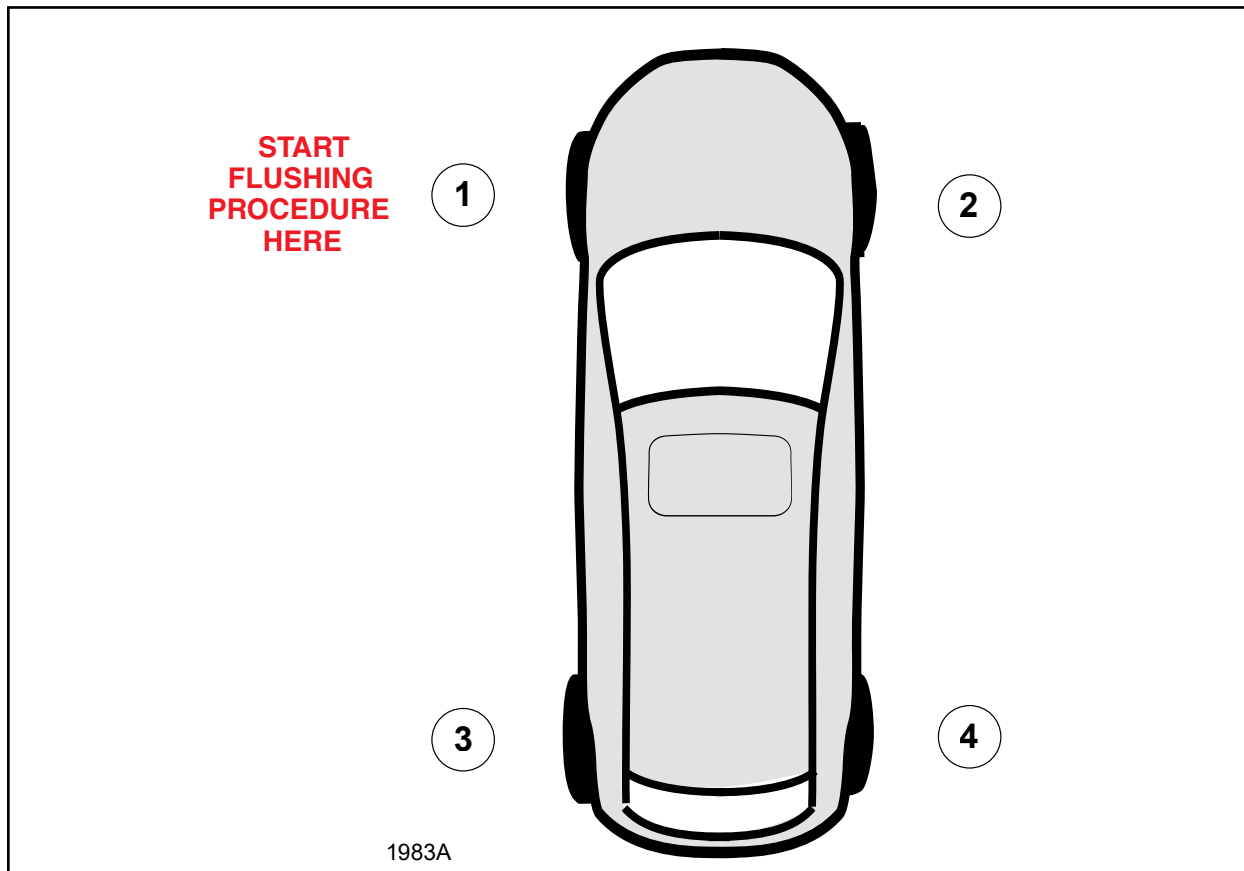

FIGURE 1
- While flushing the brakes follow the bleed order shown in Figure 1. This bleed order is unique to this recall procedure. See Figure 1.